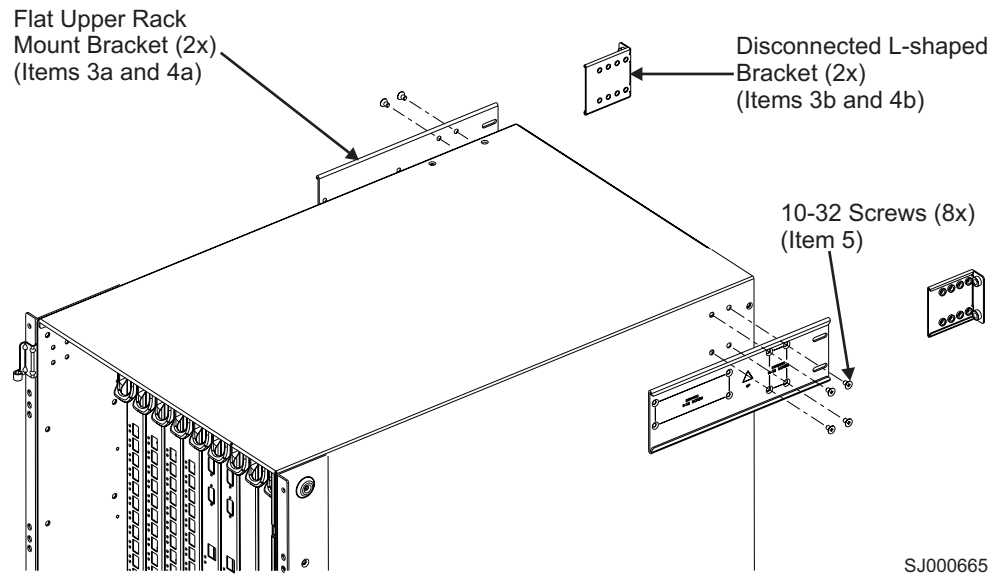

Figure 9. Attaching the right and left flat upper mount brackets to the chassis
6. **Attention:** When you insert screws into the chassis, use the exact screws specified in the procedure. Use of longer screws might damage the chassis. Attach the right and left flat upper mount brackets (see Figure 9 on page 17, items 3a and 4a) to the chassis by using four of the 10-32 x 5/16-in. Phillips-flathead screws (item 5) per bracket. Tighten the screws. Orient the slotted holes in the brackets towards the blower side of the chassis. See Figure 9 on page 17 for orientation.